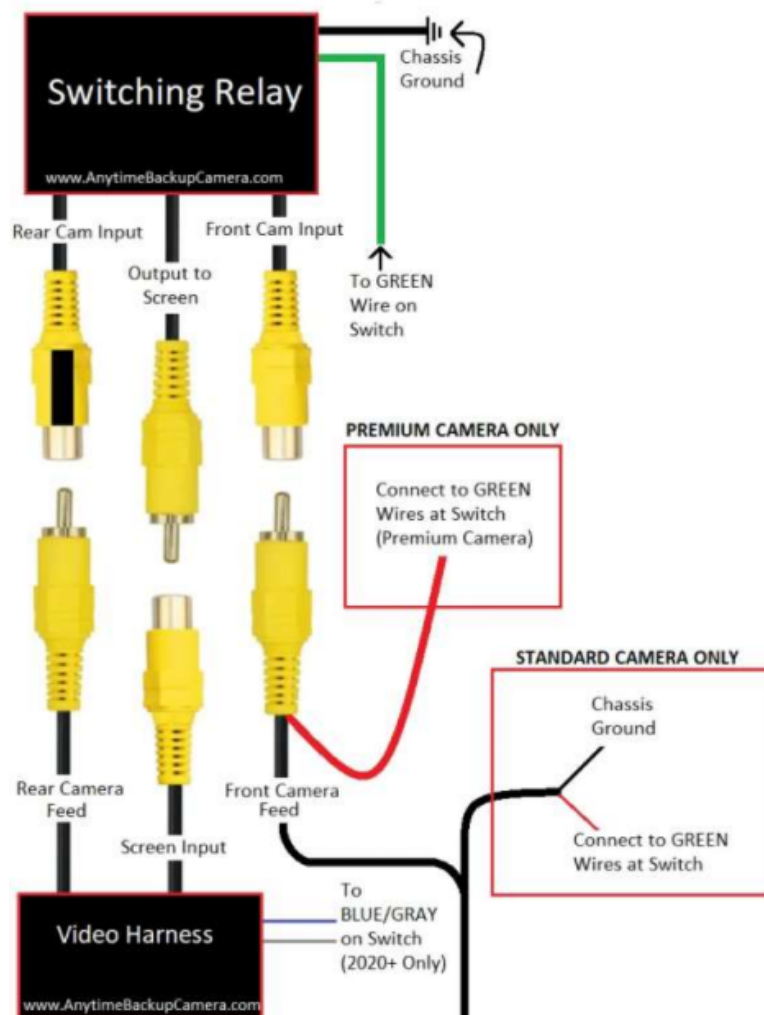

Figure 7 - Switching Relay/Video Harness Connection Diagram
Step 3.1 – Switching Relay Video (RCA) Connections: Follow the procedure bulleted here and shown in Figure 7 below: